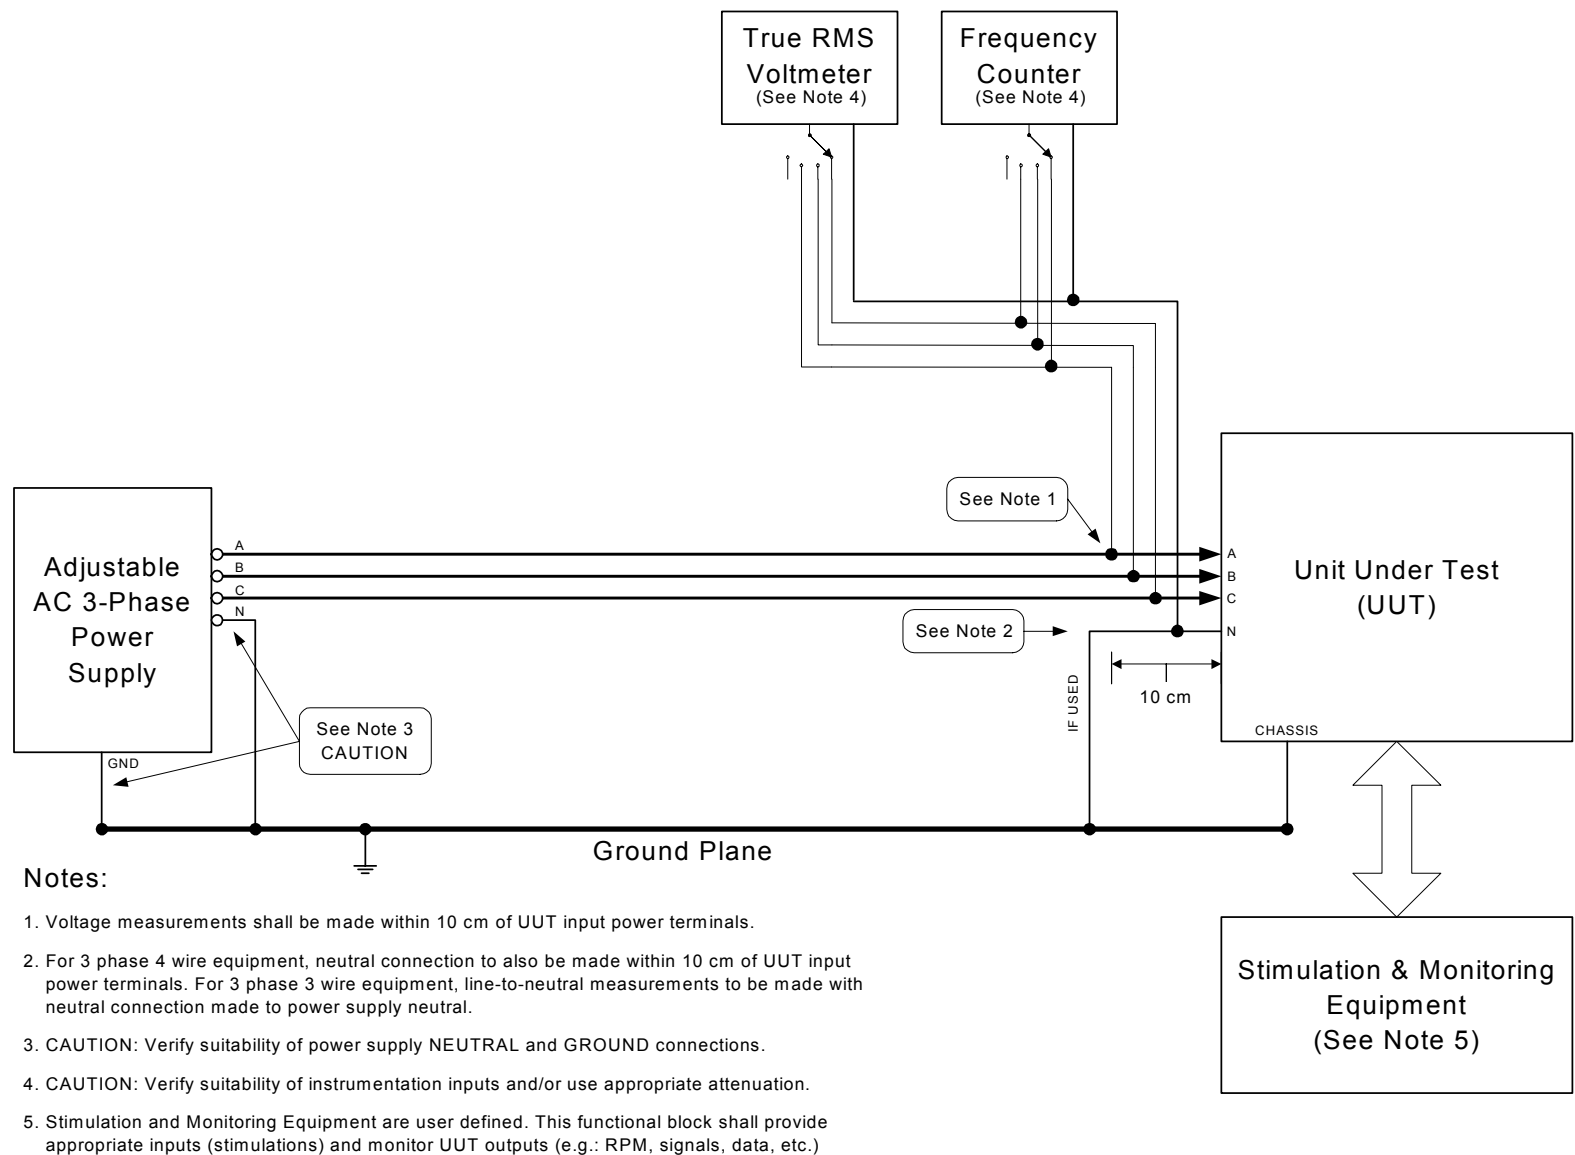

FIGURE TVF102-1. Steady state limits for voltage (including unbalance) and frequency.
4. Test setup. Configure the test setup as shown in figure TVF102-1. Measurements, except current, must be made within 10 cm of the input power terminals of the UUT.
5. Compliance test. With the power source off, install the UUT and the stimulation and monitoring equipment into the test setup of figure TVF102-1. Turn on the power source and adjust the voltage to the nominal steady state voltage of 115 Vrms (line-to-neutral) and adjust the frequency to a steady state frequency of 400 Hz. Energize the UUT. Allow sufficient time for the UUT to warm up. Conduct a performance test of the UUT according to the utilization equipment performance test procedures to verify that the UUT is providing specified performance for normal aircraft electrical conditions.